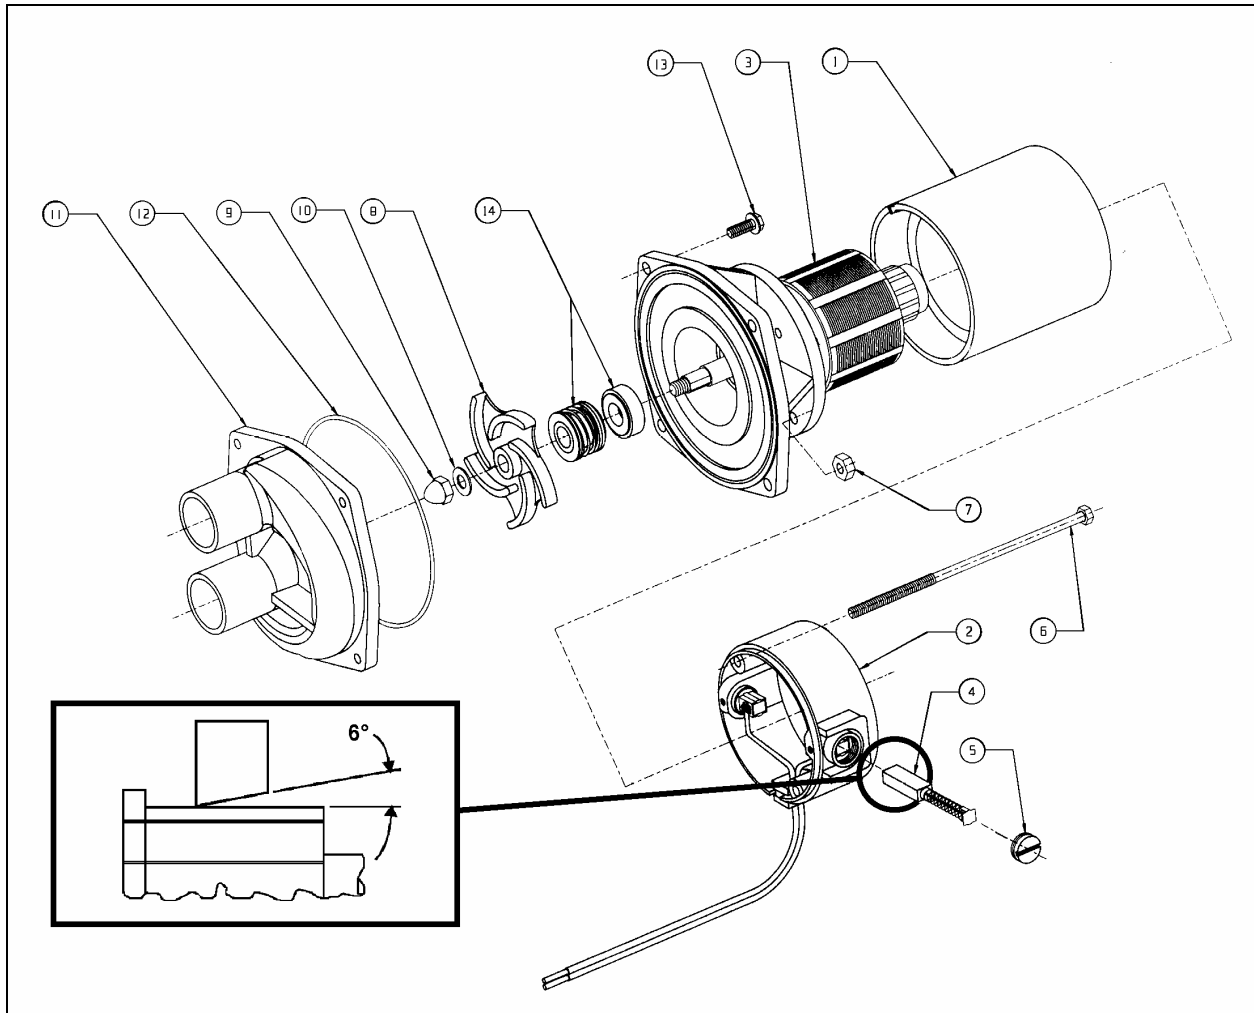

FIGURE 56: WATER RECIRCULATING PUMP (CONVERTED VEHICLE - CENTRAL A/C)
- d. New brushes have a six (6) degree angle. The brush should always be inserted so that the angle is open away from the pump end of the assembly (inset, Figs. 56).